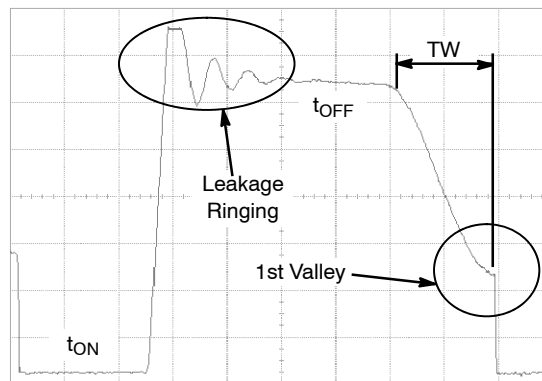
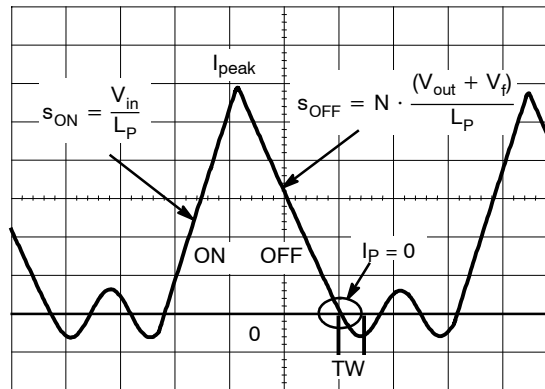
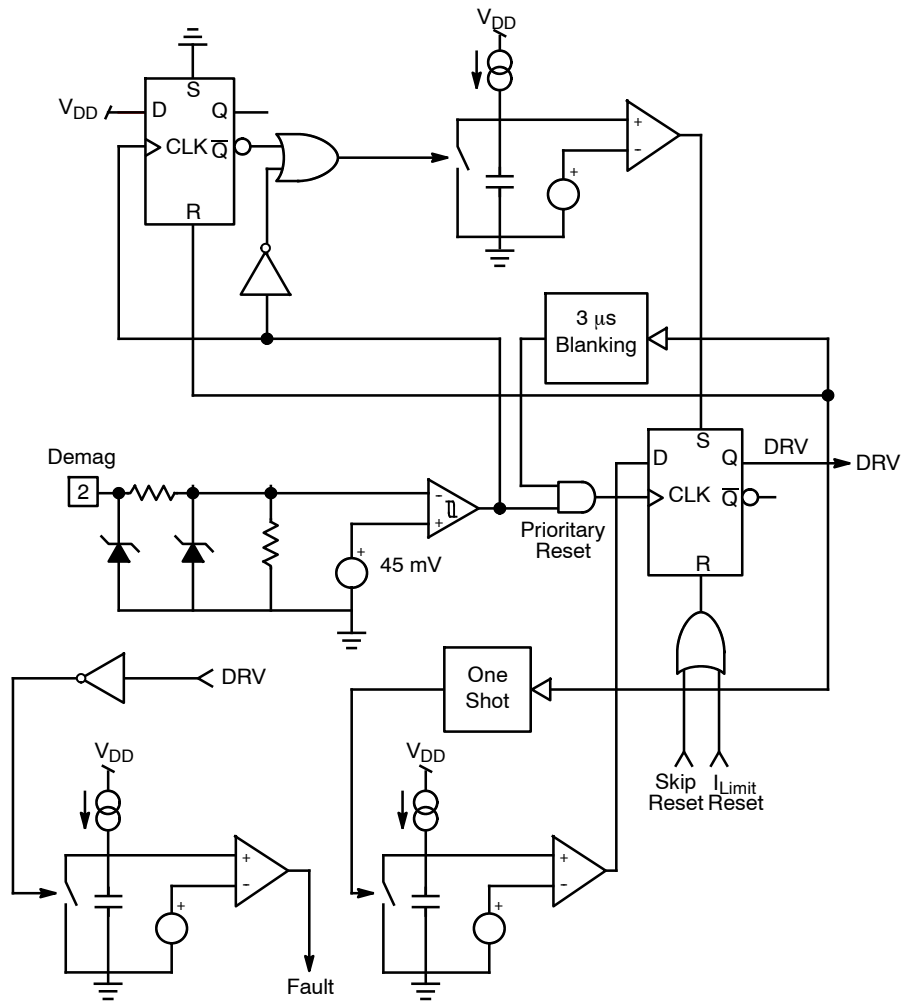
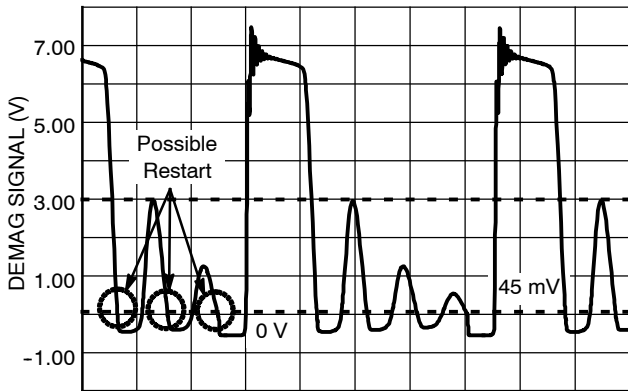

Figure 7. Typical Quasi-Resonance Waveform
Figure 8. Magnetizing Inductance Current Waveforms
Figure 9. Internal QR Architecture
Figure 10. Core Reset Detection is Done Through the Monitoring of a Dedicated Auxiliary Winding
Quasi-Resonance (QR) implies that the controller permanently monitors the transformer core flux activity and ensures Borderline Conduction Mode (BCM) operation. That is to say, when the switch closes, the current ramps up in the magnetizing inductance L_P until it reaches a setpoint imposed by the feedback loop. At this point, the power switch opens and the energy transfers from the primary side to the secondary (isolated) portion. The secondary diode is now biased and the output voltage “flies back” to the primary side, now demagnetizing the primary inductance L_P. When this current reaches zero, the transformer core is said to be “reset” (φ = 0). At this time, we can turn the MOSFET on again to create a new cycle. Figure 7 and 8 portray the typical waveforms with their associated captions. If a delay TW is introduced further to the core reset detection and before biasing the power MOSFET, the drain signal V_{ds}(t) has the time to go through a minimum, also called valley. Therefore, when we will finally reactivate the power MOSFET, its drain-to-source voltage will be minimum, reducing capacitive losses but also its gate-charge value, since the Miller effect gets diminished at low V_{ds}.
The flux activity monitoring is actually made via an auxiliary winding, obeying the law, V_{aux} = N · dφ / dt. Figure 9 describes how the detection is made, since the signal obtained on the auxiliary winding is centered to zero. Let’s split the events with their associated circuitry:
The D flip-flop output is high, the MOSFET is enhanced and current grows-up in the primary winding. This is the on portion of Figure 8, left side of the triangle. When the driver output went high, its rising edge triggered a 8 μs timer. This 8 μs timer provides a true frequency clamp by driving the D-input of the flip-flop. Now, when the peak current reaches the level imposed by the feedback loop, a reset occurs and the flip-flop output comes low.
As one can see from Figure 7, a parasitic ringing takes place at the switch opening: this is the leakage inductance contribution. Unfortunately, this leakage can be detected as a core reset event if no precaution is taken. This explains the presence of the 3 μ s blanking timer that prevents any restart before the completion of this circuit. After leakage, the voltage applied over the primary winding is an image of the output voltage: this is the flyback level, or plateau level, equal to $N(V_{out} + V_f)$, with N the turn ratio between the primary and the secondary, V_{out} the output voltage and V_f the secondary diode forward drop. We are on the right portion of Figure 8, OFF portion, the secondary current ramping down. If we now observe the voltage on the auxiliary winding, we will see something like what Figure 10 shows where the plateau lasts until the core is reset. At this reset event, a natural ringing takes place whose amplitude depends on the ratio N and V_{out} . A comparator observes this activity and detects when the voltage drops below ground, actually below 45 mV typically. In Figure 9, one can see the ESD protection arrangement which introduces a small capacitive component to Pin 3 input. This capacitive component associated with the demagnetization resistor can thus realize the necessary above TW delay.
Therefore, we can see that for various switching frequency values (dependent on the input condition if the output demand is fixed), the converter will permanently adjust the peak current I_p to keep the output power constant. By manipulating the slope definitions S_{ON} and S_{OFF} (see Figure 8), we can show that the peak current is defined by: